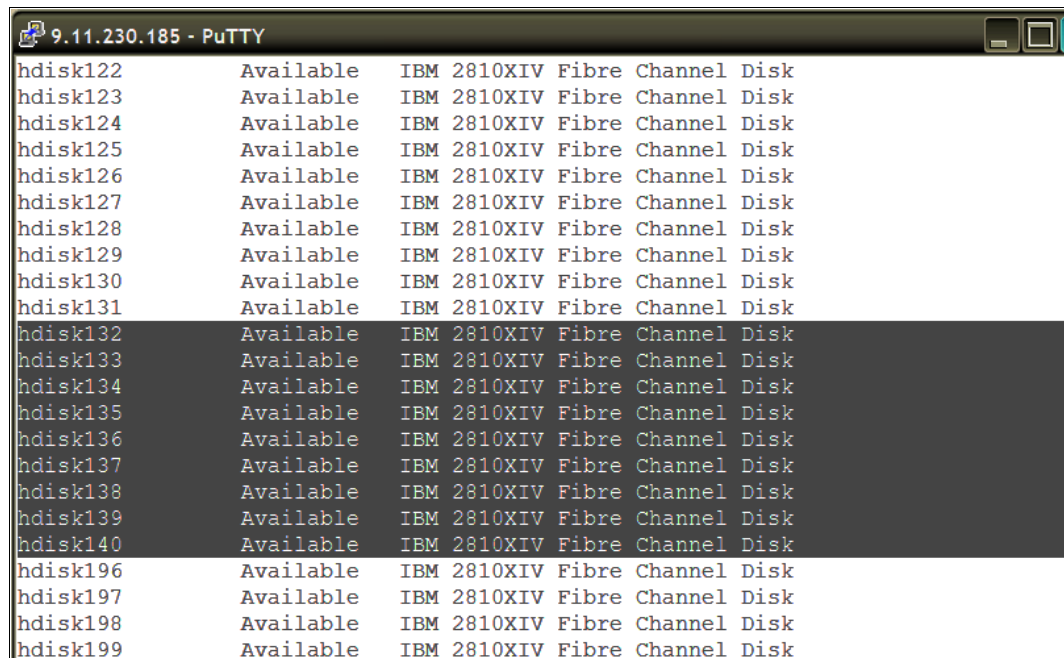

Figure 3-8 The hdisks of the added XIV volumes
2. In the VIOS, enter the `cfgdev` command to discover the newly added XIV LUNs, making the LUNs available as disk devices (hdisks) in the VIOS. In our example, the LUNs that we added correspond to hdisk132 - hdisk140, as shown in Figure 3-8.